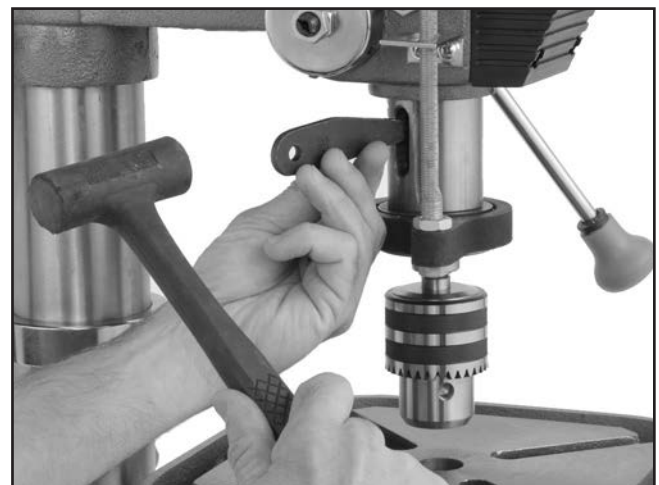

Figure 35. Using drift key to remove arbor.
8. Tap the drift key with a rubber or wooden mallet, as shown in **Figure 35**, until the chuck releases.